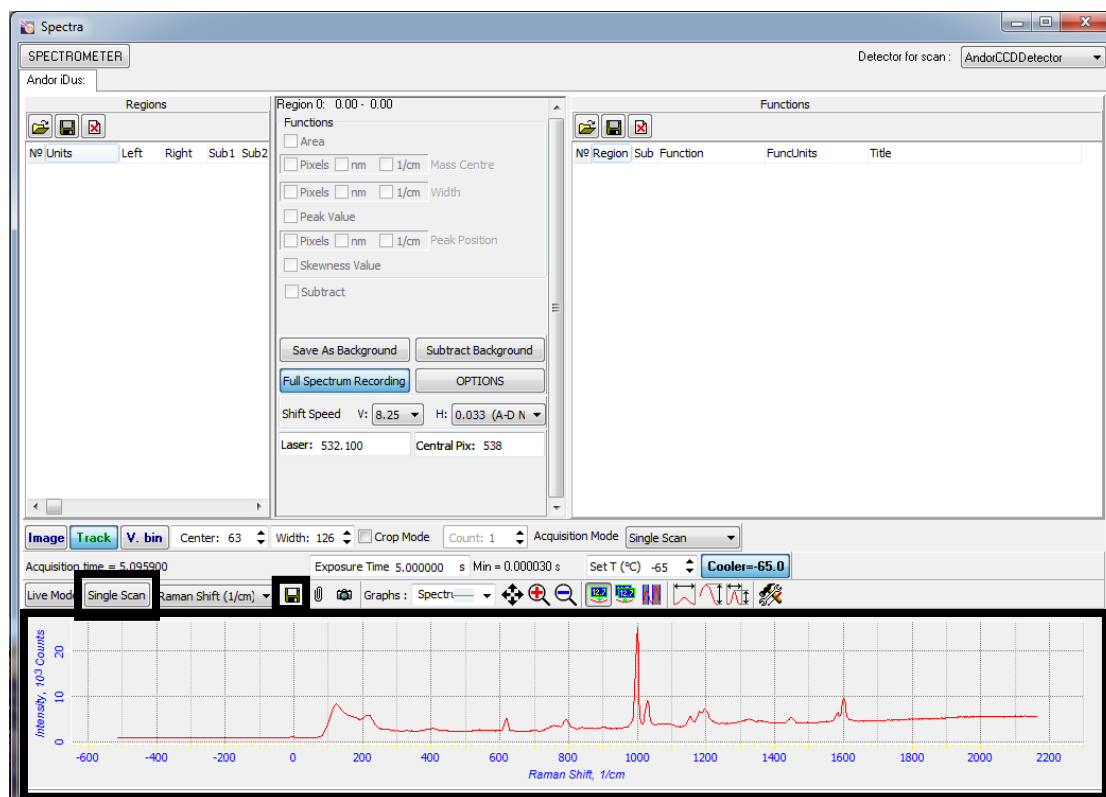

Figure 9: Highlighting single scan and save spectrum icons
- Click “Single Scan” (Figure 9).
- To save the spectrum, click the floppy disk icon (Figure 9).